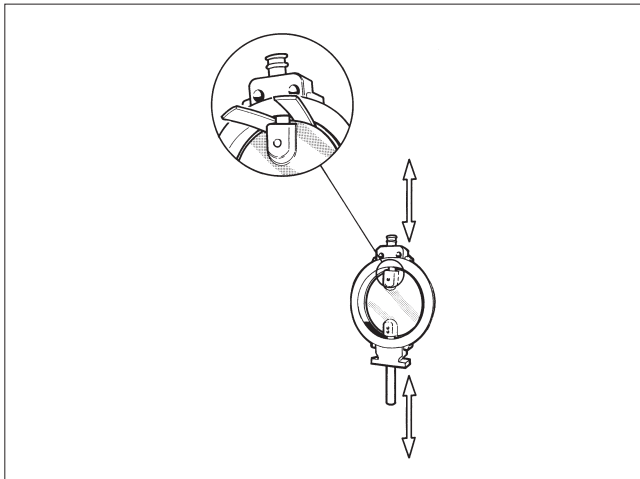

Fig. 15 Protecting the disc during disassembly and assembly
- Drill the holes carefully to the center of the pins (16). Choose a drill 0.2-0.5 mm smaller than the diameter of the pin.
- Dismantle the gland packing including anti-extrusion ring (23) according to Section 5.3.
- Detach the screws (44) and the blind flange (8) and remove the gasket (31).
- Place rubber strips or other protection between the disc edge and the body and remove the shafts (see Fig 15).
- Remove the bearings (11).
- Set the disc (3) and the shaft (5 & 6) together beforehand. In case the pin holes have been damaged during removal of the old pins the holes can be drilled to a larger pin size. File off any burrs from the shafts.
- Mount the bearings (11) into the body (1) from flow port side.
- Place thrust bearings (12) at the end of the shaft
- Place the disc horizontally on a surface so that the flat side of the disc lays against the surface. Lift the body around the disc so that the shaft bores are aligned with the bores in the disc. Protect the disc (see Fig. 15).